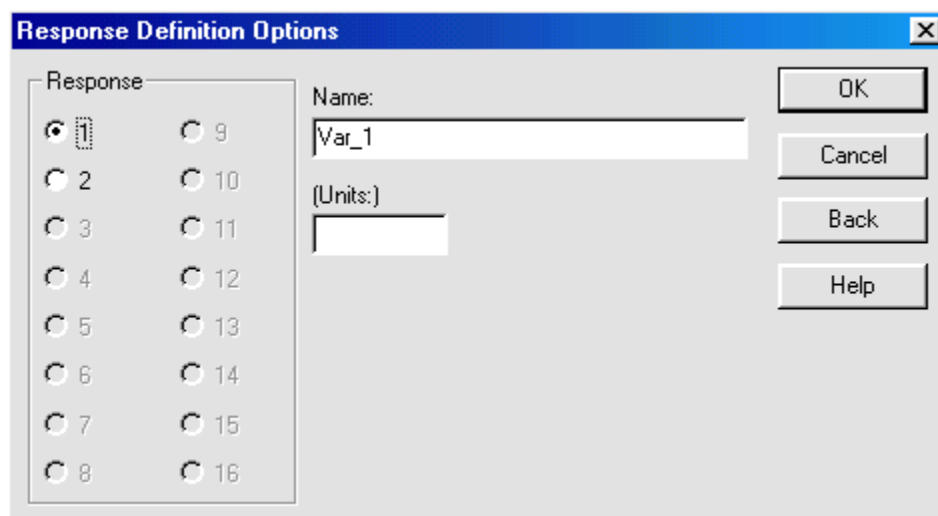

Figure 11-3. Response Definition Options Dialog Box
- Click OK to display the Response Definition Options dialog box shown in Figure 11-3.